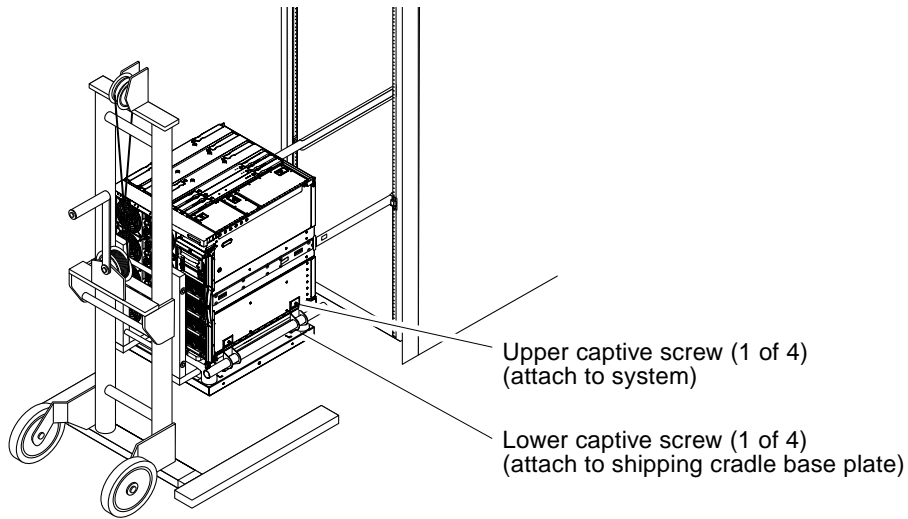

FIGURE 5 Attaching the Captive Screws
11. Slide the shipping cradle handles inward until they contact the sides of the system (FIGURE 5). Tighten all eight captive screws.